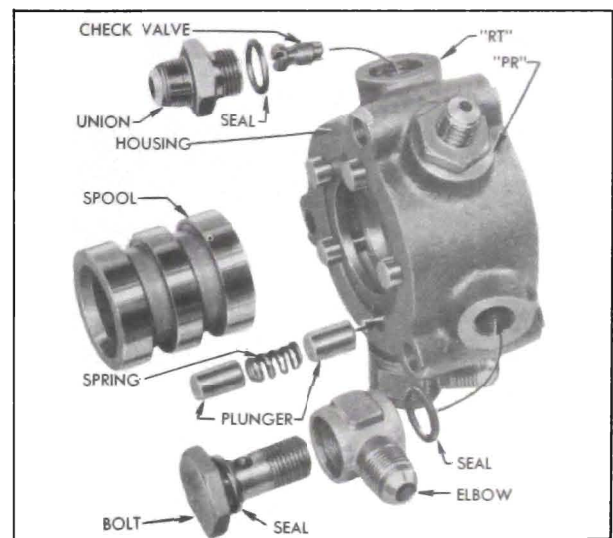

Figure 8-24—Hydraulic Valve Parts
13. Check the valve spool and centering plungers for possible sticking in valve housing, then carefully remove these parts and the centering springs. See figure 8-24. Place spool and plungers where they will not be damaged by contact with other parts.
14. Remove unions and elbows, then remove check valve from the return ("RT") port of valve housing. See figure 8-24.
16. Remove clamps and ball return guides from ball nut, turn nut over to remove all balls (60), then remove ball nut from steering shaft worm.
4. Install check valve in "RT" port of the hydraulic valve housing and tighten securely. See figure 8-24.